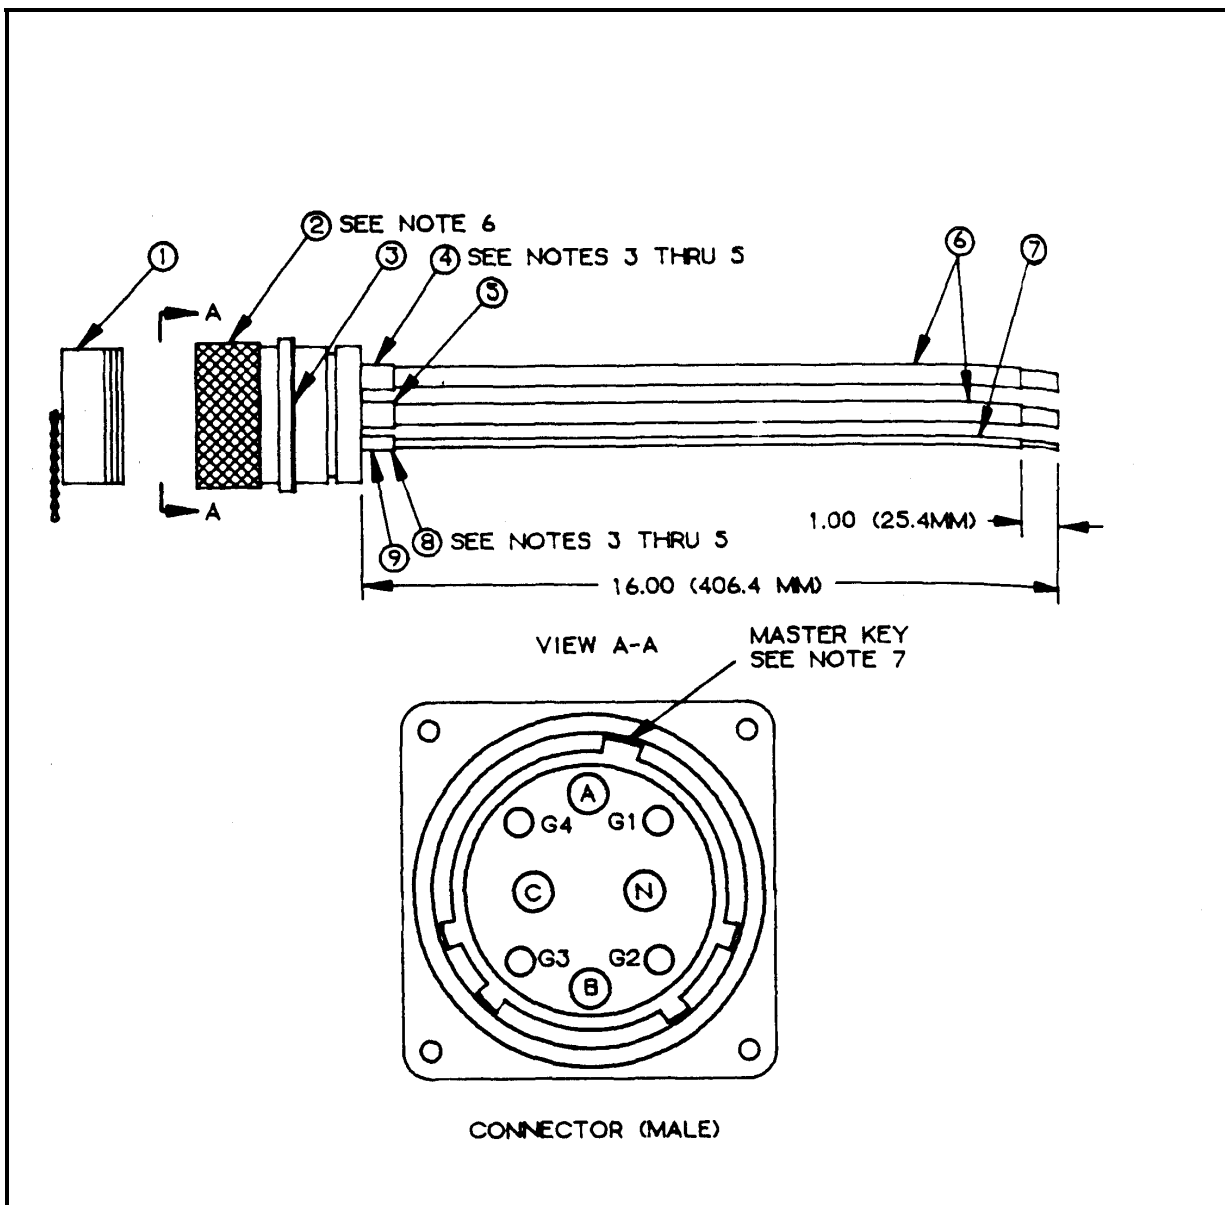

Figure F-5. 200-Amp, Input Connector Assembly, (J1)
F-5 200 Amp, Input Connector Assembly, (J1)**Component Legend for Figure F-5**
- c. Electrical connector (Figure F-5, Item 2) is furnished with the following: